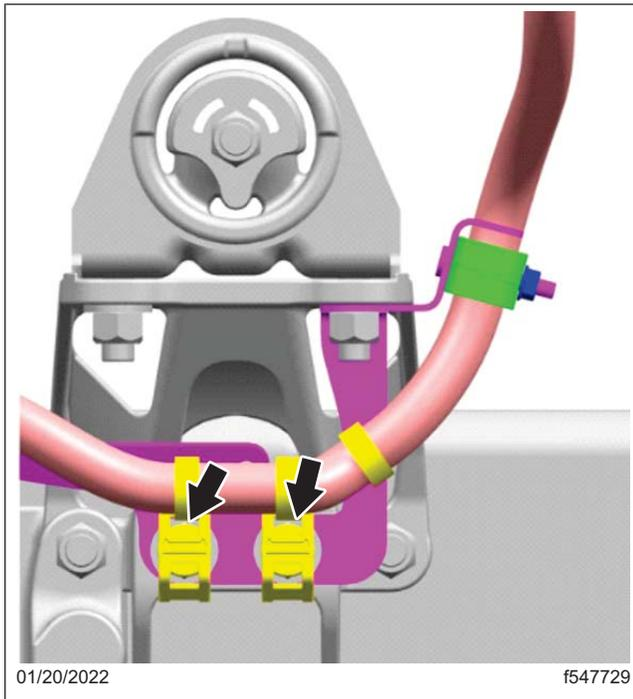

Fig. 13, Push-On Tie Mounts Installed
- 15.1 Install the two push-on tie mounts (23-13805-062) on the exposed thread portion of the two right side cab mount frame bracket bolts. See **Fig. 13**.